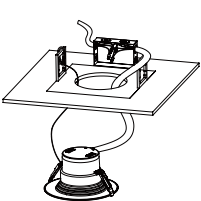

Fig. 4
- Step 4:** Insert lamp conduit into the J-box and wire to power source (black to hot, white to neutral, violet to 0-10V dimming positive, gray to 0-10V dimming negative) (Fig. 4). Reattach J-box cover when done.